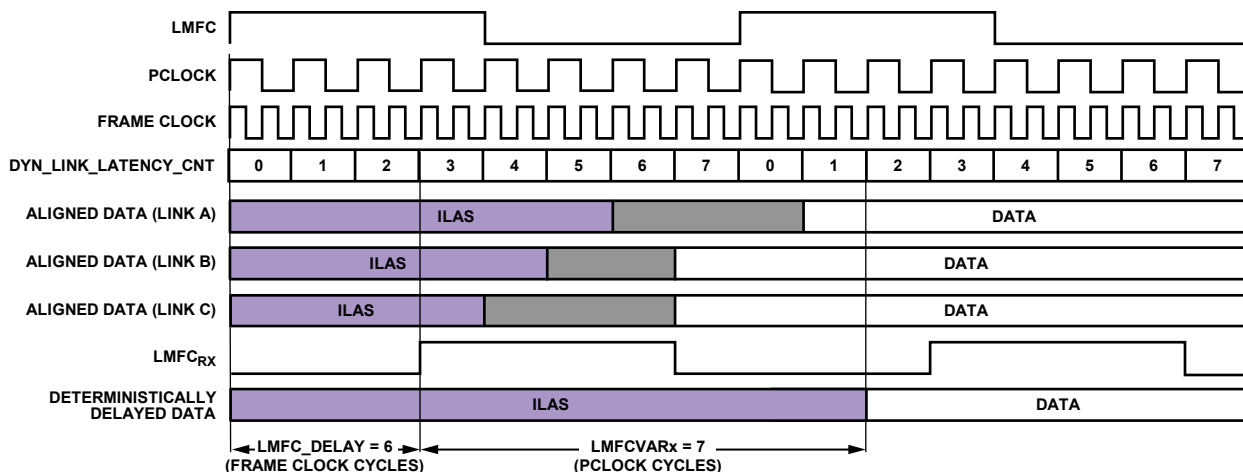

Figure 55. Multilink Synchronization Settings, Derived Method Example
Figure 55 shows how DYN_LINK_LATENCY_x (Register 0x302 and Register 0x303) provides a readback showing the delay (in PClock cycles) between LMFC_{RX} and the transition from ILAS to the first data sample. By repeatedly power-cycling and taking this measurement, the minimum and maximum delays across power cycles can be determined and used to calculate LMFCVar and LMFCDel.
The example shown in Figure 55 is demonstrated in the following steps according to the procedure outlined in the Without Known Delays section. Note that this example is in Subclass 1 to achieve deterministic latency, which has a PClockFactor (FrameClockRate/ PClkRate) of 2 and uses K = 16; therefore PClocksPerMF = 8.
1. In Figure 55, for Link A, Link B, and Link C, the system containing the AD9154 (including the transmitter) is power cycled and configured 20 times. The AD9154 is configured as described in the Device Setup Guide section. As the point of this exercise is to determine LMFCDel and LMFCVar, the LMFCDel is programmed to 0 and the DYN_LINK_LATENCY_x is read from Register 0x302 and Register 0x303 for Link 0 and Link 1, respectively. The
variation in the link latency over the 20 runs is shown in Figure 55 in gray.